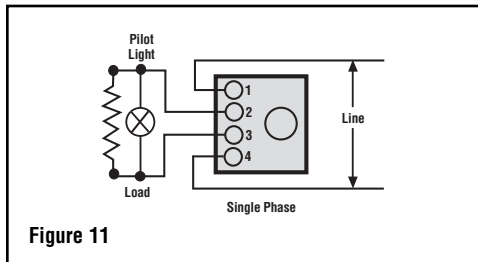

Figure 11
2. Connect wires according to wiring diagrams (Figure 11 thru 15).